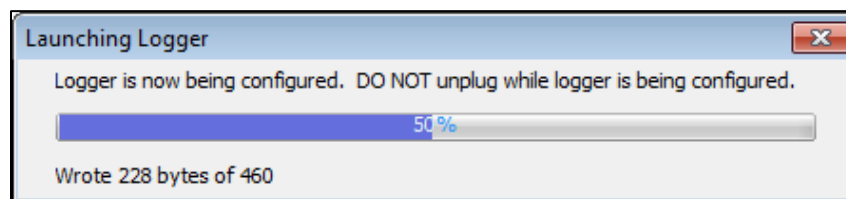

Figure B 6. Launching Logger status window.
7. The Launching Logger status window will appear (Figure B 6).